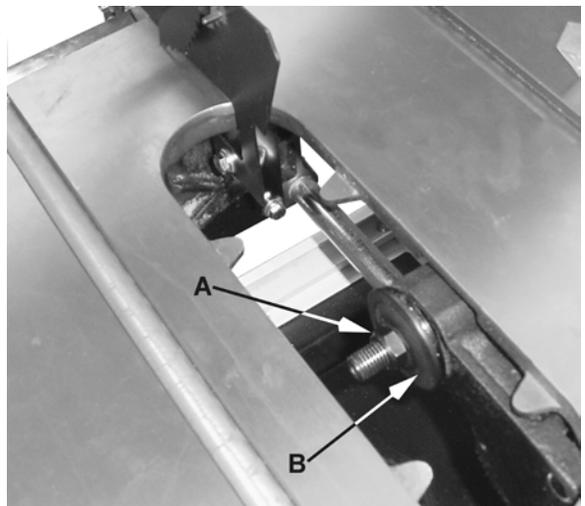

Figure 17
- Remove the arbor nut (A, Fig. 17) and flange (B, Fig. 17).
2. Set an accurate straight edge (C), against the saw blade (D) on the right side as shown in Figure 17. Be sure that the straight edge rests against the body of the saw blade and not the saw teeth.
3. Loosen two hex cap screws (F) securing the splitter bracket and adjust the splitter (E) sideways until alignment with the saw blade is achieved.
4. Tighten the hex cap screws (F).